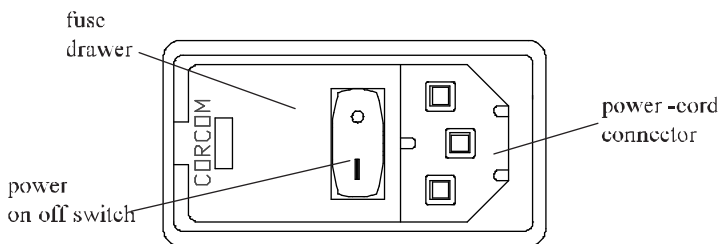

Figure 5-1. Power-Entry Module
- 1a. Turn off the power switch on the power-entry module (Figure 5-1).